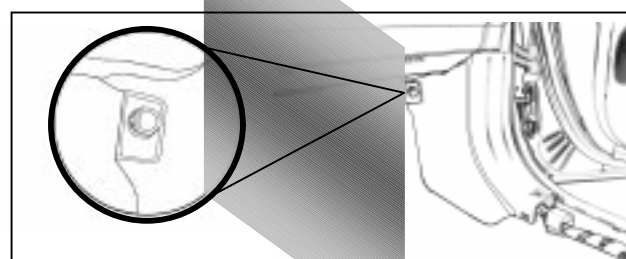

Figure B3
3. Remove kick panel using pry tool making sure to unscrew nut as shown as shown in Figure B3